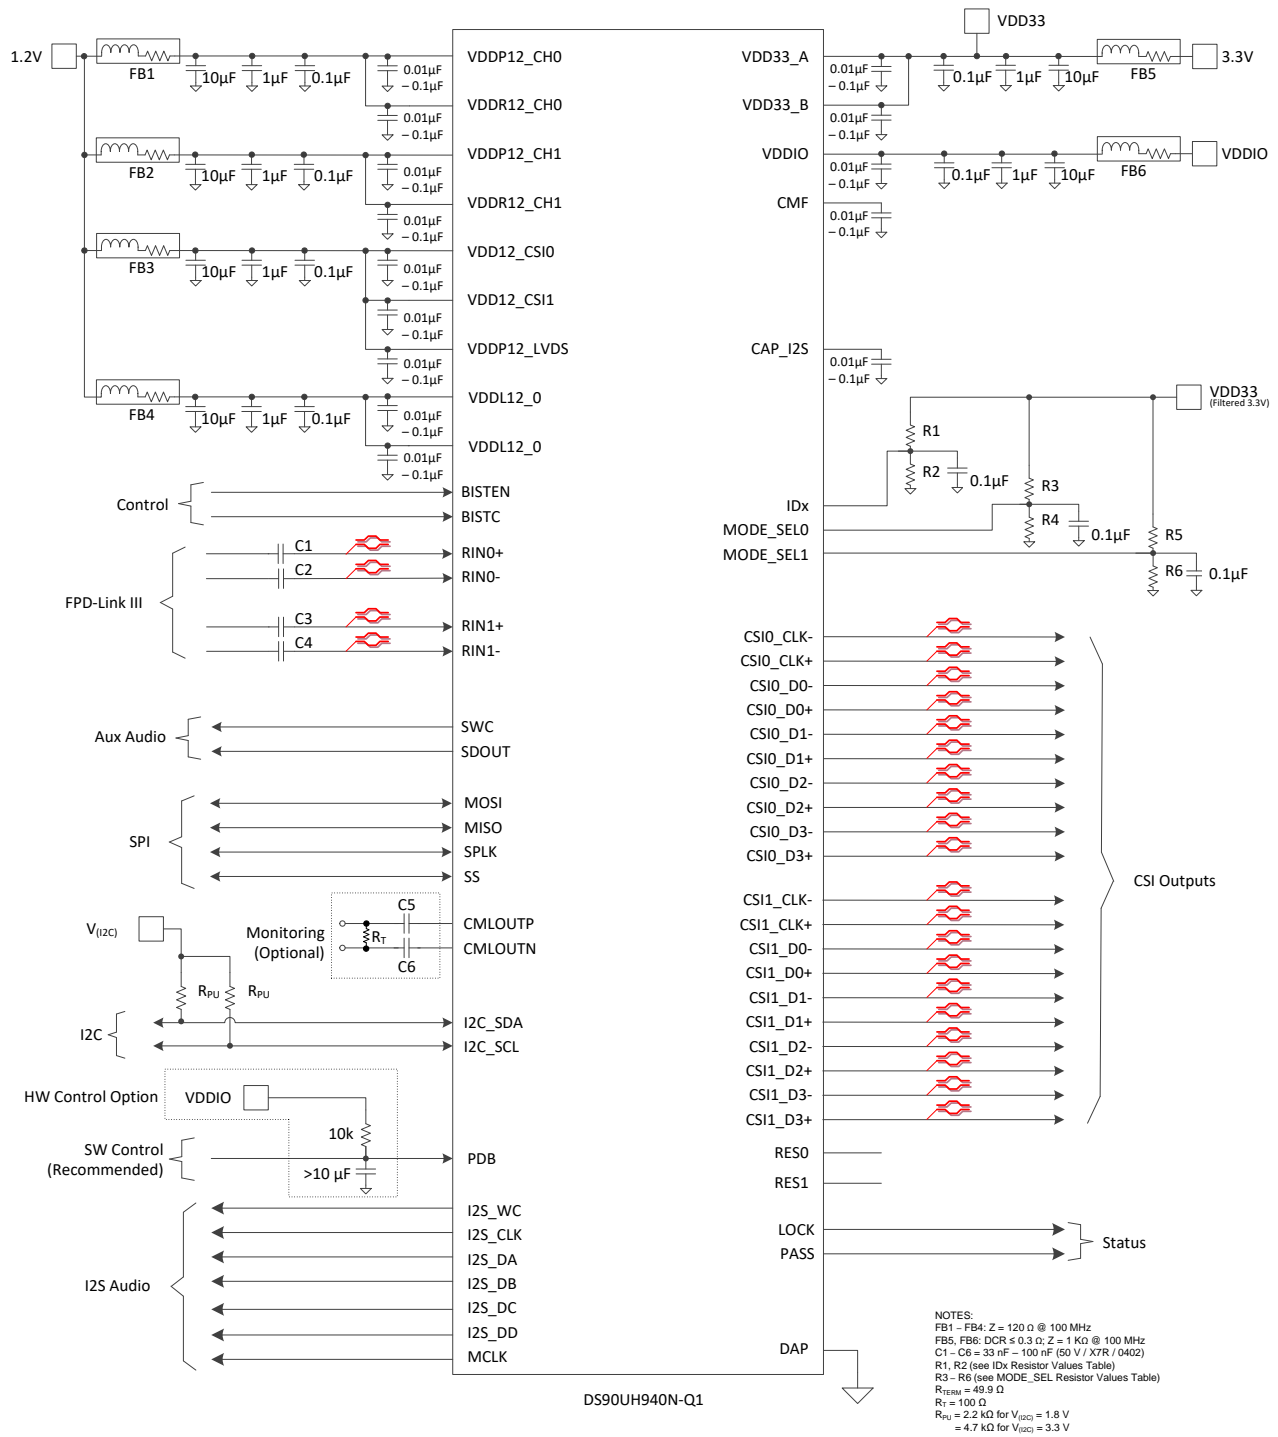
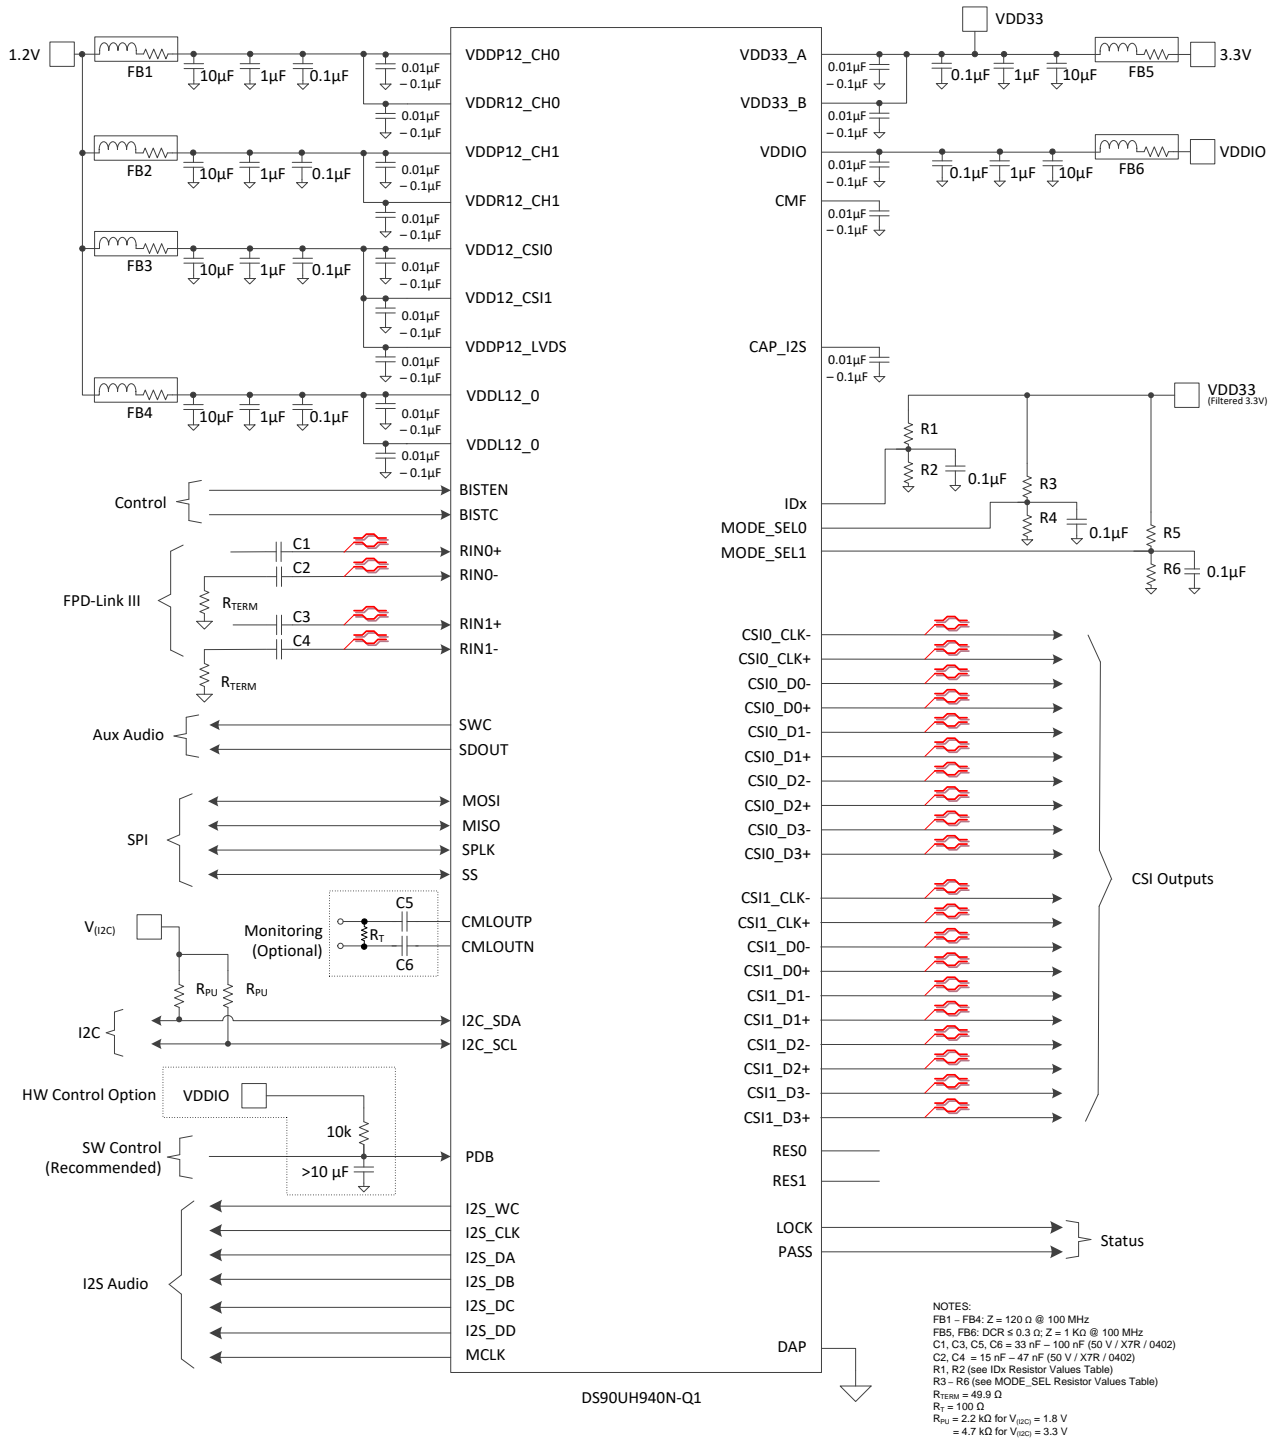

图 38. Typical Connection Diagram (STP)
图 39. Typical Connection Diagram (Coax)
Bypass capacitors must be placed near the power supply pins. At a minimum, use four (4) 10- $\mu$ F capacitors for local device bypassing. Ferrite beads are placed on the two sets of supply pins (VDD33 and VDDIO ) for effective noise suppression. The interface to the graphics source is LVDS. The VDDIO pins may be connected to 3.3 V or 1.8 V. A capacitor and resistor are placed on the PDB pin to delay the enabling of the device until power is stable. See 图 38 for a typical STP connection diagram and 图 39 for a typical coax connection diagram.